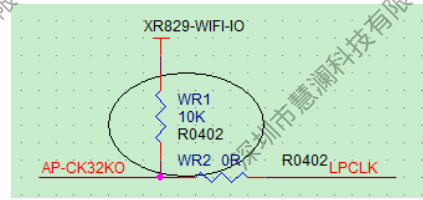

Figure 2-10 32KFOUT Circuit Design
- The 32KFOUT pin is an OD output structure pin and must connect to the external pull-up resistor, the pull-up voltage and the working voltage of the external peripheral must be consistent. As shown in Figure 2-10.